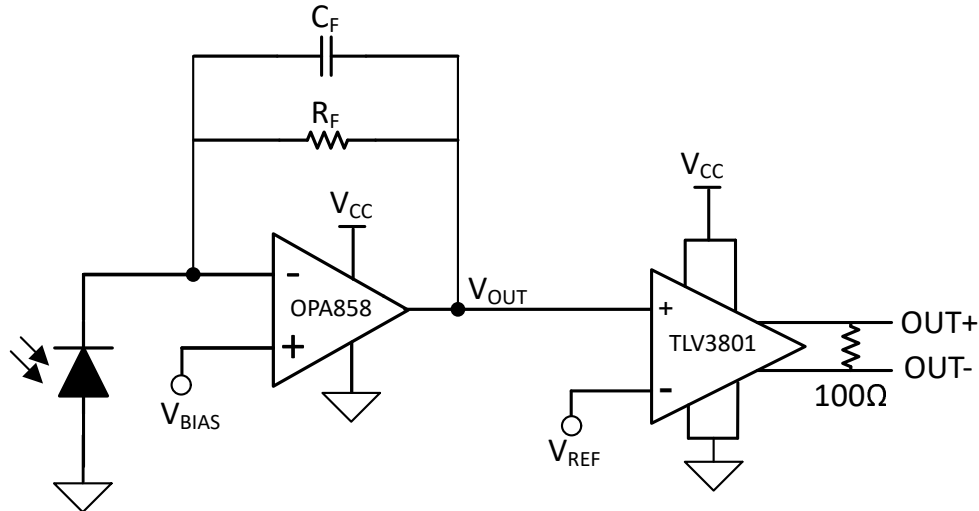

Figure 8-1. Optical Receiver
The TLV380x/TLV3811(C) can be used in conjunction with a high performance amplifier such as the OPA858 to create an optical receiver as shown in the Figure 8-1. The photodiode operates in photoconductive mode: exposure to light will cause a reverse current through the photodiode. A bias voltage is applied to the op amp's non-inverting input to prevent saturation at the negative power supply. The OPA858 takes the current conducting through the diode and translates it into a voltage for a high speed comparator to detect. The TLV380x/TLV3811(C) will then output the proper LVDS signal according to the threshold set (V_{REF}).